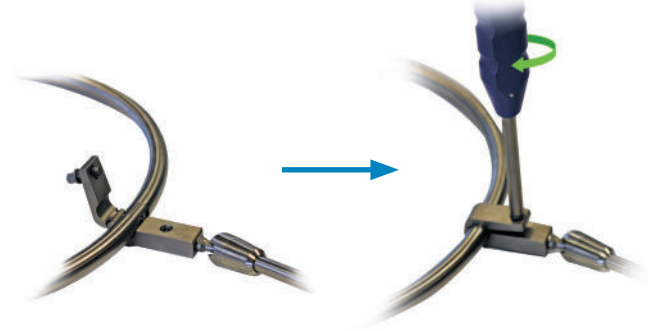

Figure 7
- Insert the retractor ring into the clamps and tighten clamps around the ring with the hex wrench where marked “Attach Rigid Arm Here” (Figure 7). This set-up position ensures structural stability of the combined articulating arm and ring construct.